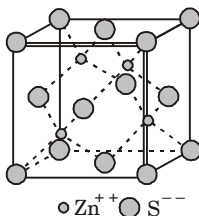

Fig. 1.8.3. Zinc blend structure.
1. (Fig. 1.8.3) shows the arrangement of Zn^{++} and S^{--} as they are tetrahedrally coordinated.